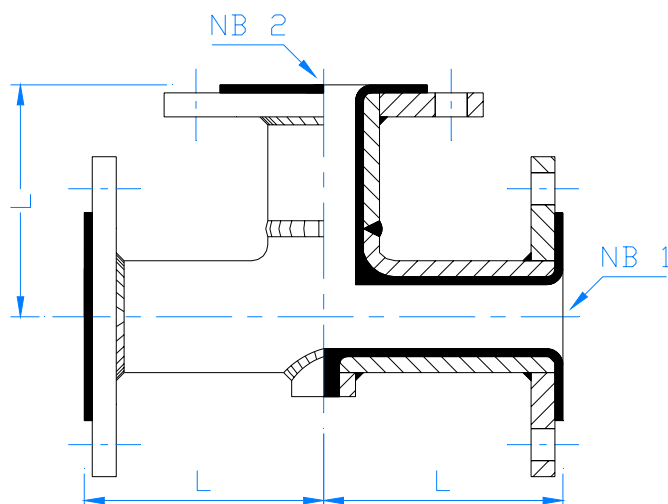

Fig. 8.7
8.7. REDUCING TEES NB 0.75"-8" (FIG. 8.7)